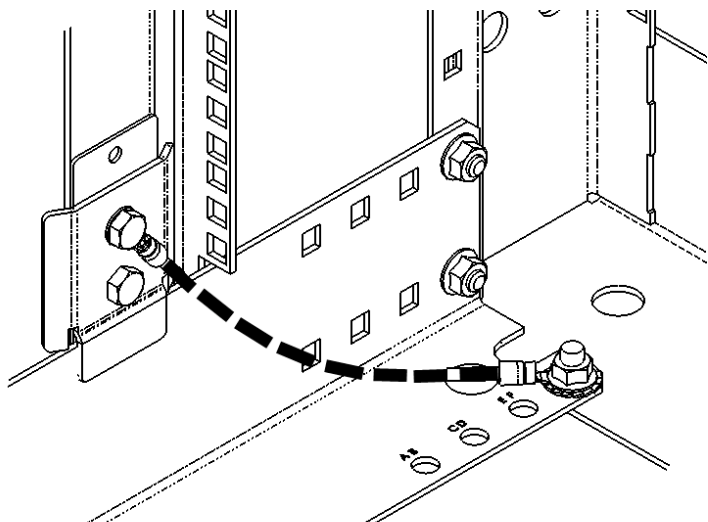

Fig. 2
2. Mount the rail onto the top edge of the lower rack frame bracket. The rail is on the outside of the frame bracket with the spacer between the rail and bracket. The clamp bracket is hooked over the frame bracket on the inside. See figures 2 and 3.
5. Attach the ground wire to one of the lower bolts on the rack frame bracket, see figure 2.